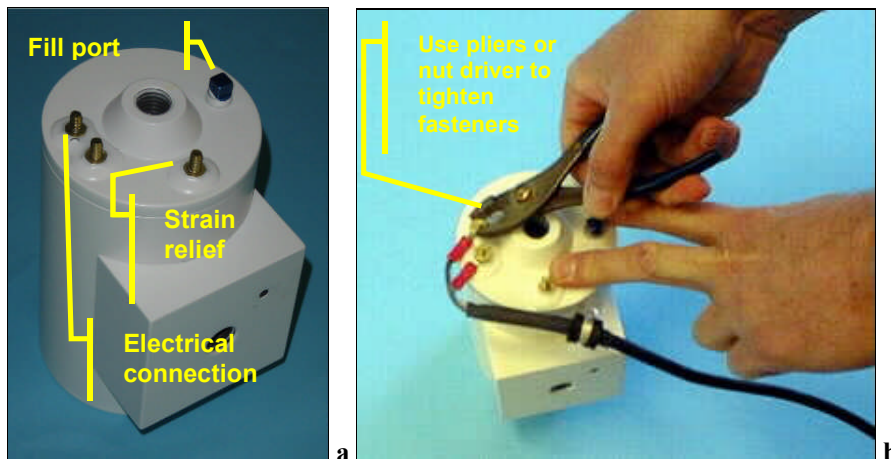

Figure 3. Sensor preparation.
- 2) Verify that the sensor contains fluid. You may shake the sensor to determine if it contains fluid. A sloshing sound indicates proper filling. Some air space above the fluid is needed for thermal expansion - see instructions on sensor fluids in this section for details. Figure 3 shows the location of the sensor fluid fill port and the mounting points of the sensor cable. Any tools used for adding fluid, tightening fasteners or the port plug should either be non-magnetic or have a clean, rust free hard-chromed finish.